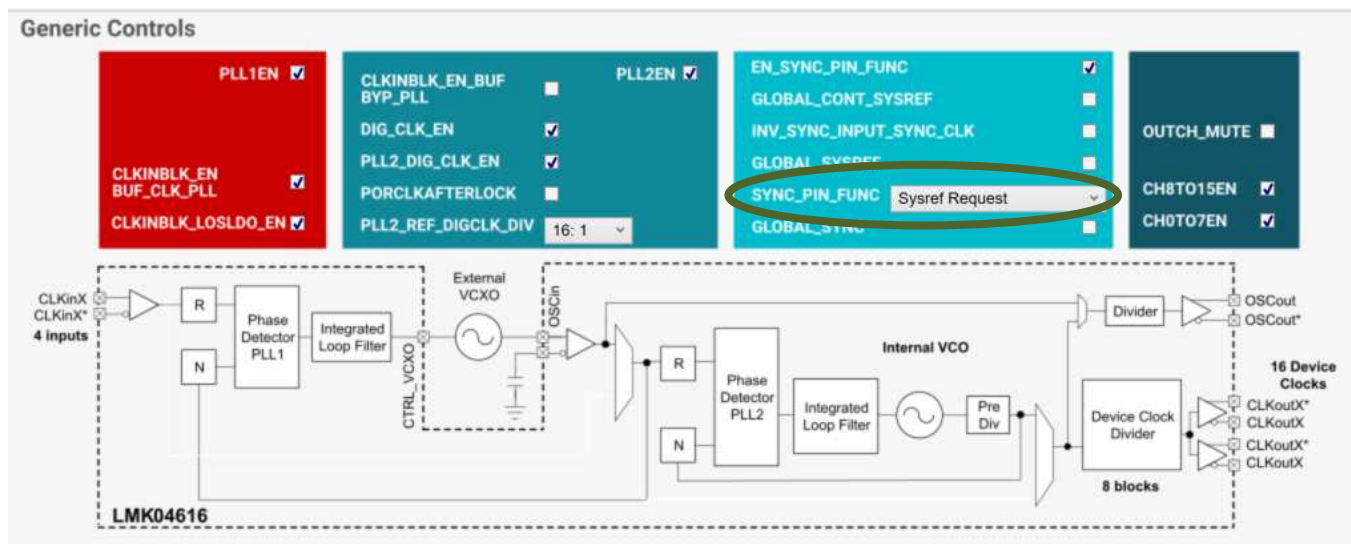

Figure 14. TICSpro Setting SYNC Pin Function to SYSREF Request
3. Select SYSREF Request from the SYNC_PIN_FUNC drop-down options as shown in Figure 14.